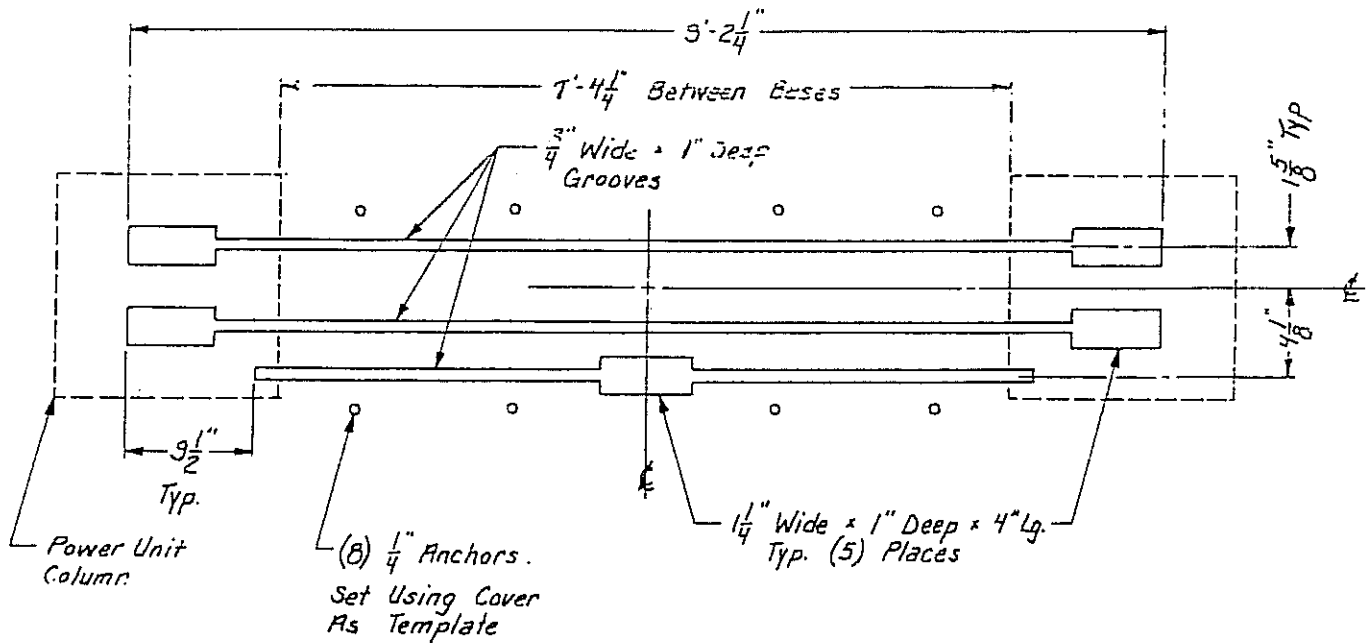

Fig. 1S
2. Using column bases as a template and dimensions shown in Fig. 1S locate and saw cut grooves between columns for cables and hydraulic line.